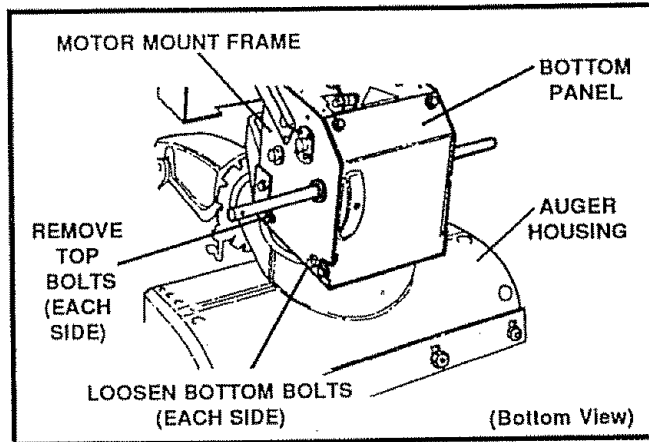
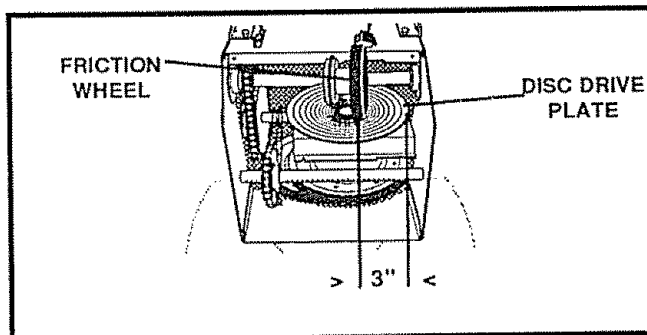

FIG. 30
FIG. 31A
- Remove top two bolts securing auger housing to motor mount frame. Loosen bottom two bolts (See Fig. 30, page 20)
- Remove the bottom panel (See Fig 30)
- Position the shifter lever in first (1) gear.
- Note the position of the friction wheel on the disc drive plate. The right outer side of the disc drive plate should be 3" from the center of the friction wheel (See Fig 31A)
- Move friction wheel to proper position as indicated in previous step (Fig. 31A).
- Remove the bottom panel (See Fig. 30, page 20).